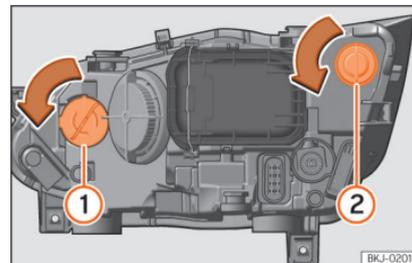

Fig. 57 In the engine compartment: turn signal light bulb ① and DRL (daytime running light) bulb ②.
- Turn the bulb holder »» Fig. 57 ① or ② to the left and pull. »»